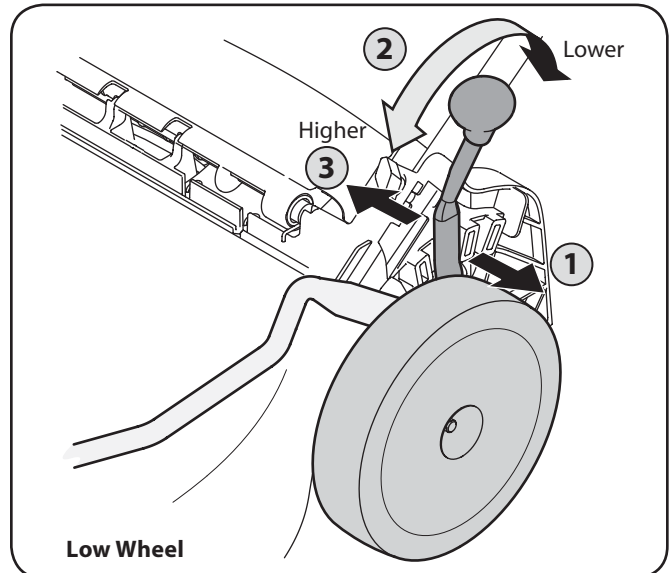
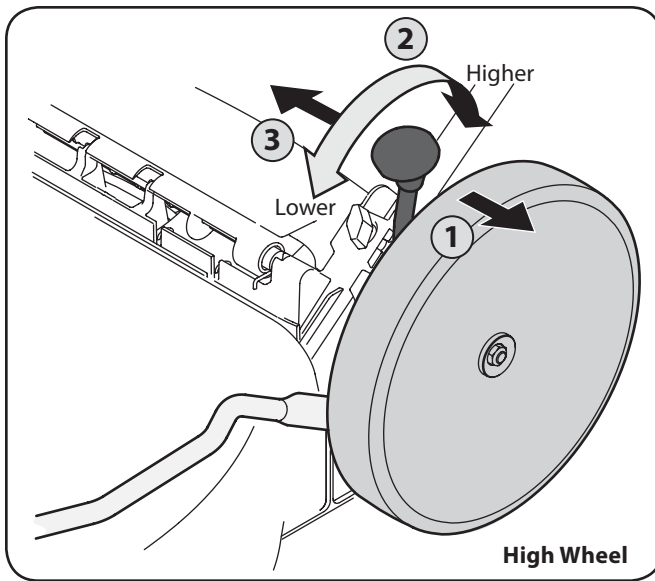

Figure 3-10
Figure 3-10A
2. Slide lever to desired position for a change in cutting height. See Fig. 3-10 and Fig. 3-10A.